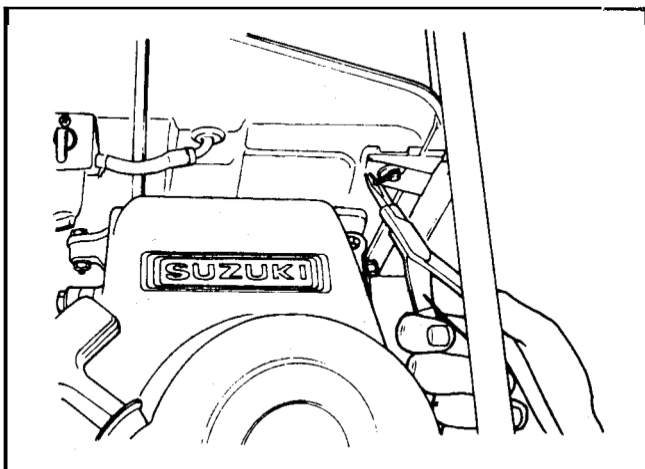

Figure 57
9. Remove the hair pin clips retaining the fuel tank and front panel to the frame of the generator. See Figure 57.